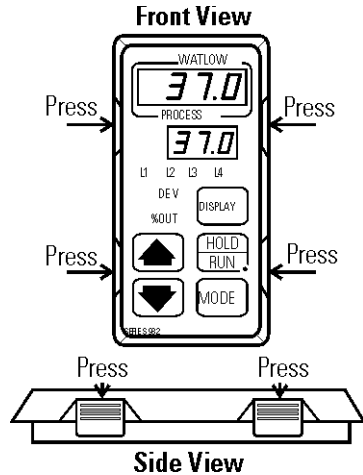

Figure 4-2. Locking Tabs
2. Wearing a grounding wrist strap or maintaining constant contact with the metal cabinet, press in the four locking tabs on the frame of the Temperature controller. There are two tabs on either side as shown in the front and side views in Figure 4-2. When all tabs are unlocked, pull the controller module out of its frame.